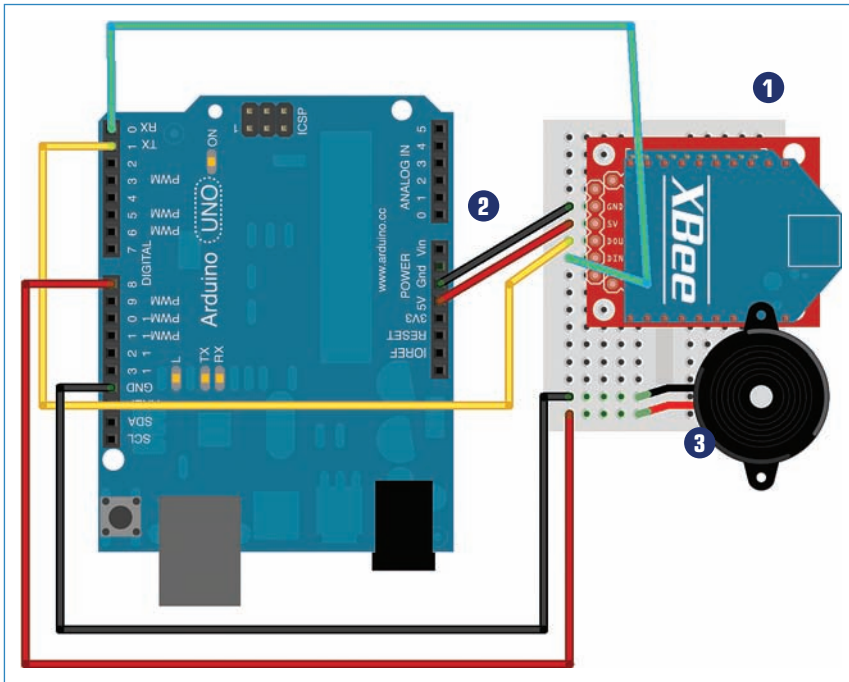

FIGURE 4.13 The buzzer unit consists of an Arduino, XBee, and buzzer.
Next, use Figure 4.13 as a guide for connecting the various parts:
3. Connect the buzzer's leads to the breadboard as well, as shown in Figure 4.13. You can connect them directly to the Arduino if you want—if you go this route, connect the red wire to pin 8 and the black wire to any free GND.